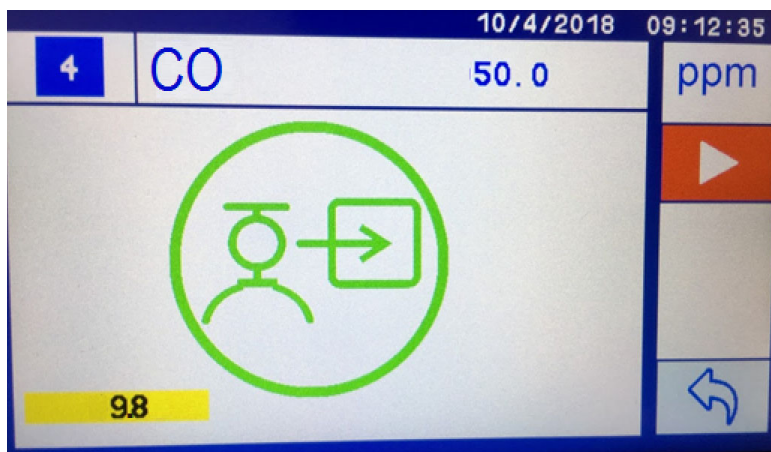

Figure 12-3: Start calibration – gas filling state
3. Press  to accept the new entry and launch the manual calibration run screen shown in Figure 12-3.
- b. The Run  icon will stay red (see Figure 12-3) while the gas measured value is: